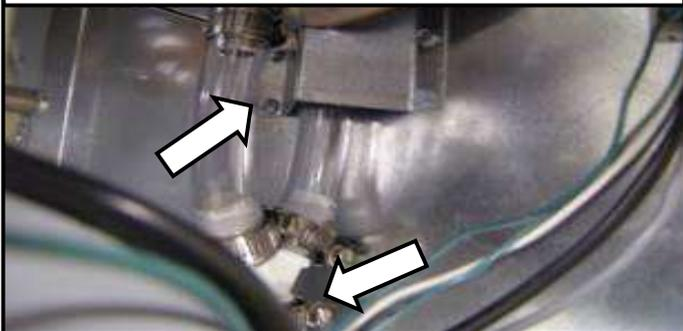

Figure 7: Upper Heat Exchanger Mounts
- 11) Remove upper heat exchanger mounts (nuts and washers). *Do not over tighten during reassembly* **Figure 7**